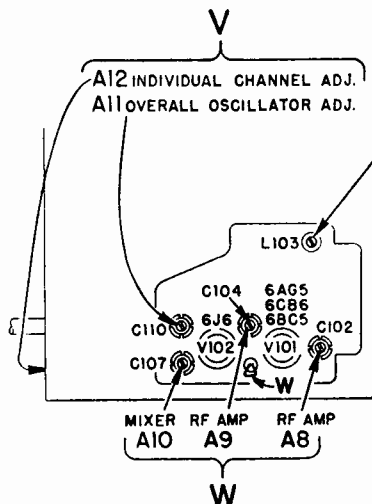

Figure 11. Top of TV Tuner, Showing Adjustment Location.
- Connect oscilloscope through a 10,000 ohm resistor to test point "W" on tuner (Fig. 11). Keep scope leads away from chassis.
HF oscillator adjustment can be made using a crystal calibrated signal generator. Note that adjustment "A11" (figure 11) is an overall oscillator adjustment and should only be made when the mixer-oscillator tube is replaced. Generally "A11" adjusts with about 3/16" of screw thread exposed. Make adjustments as follows: